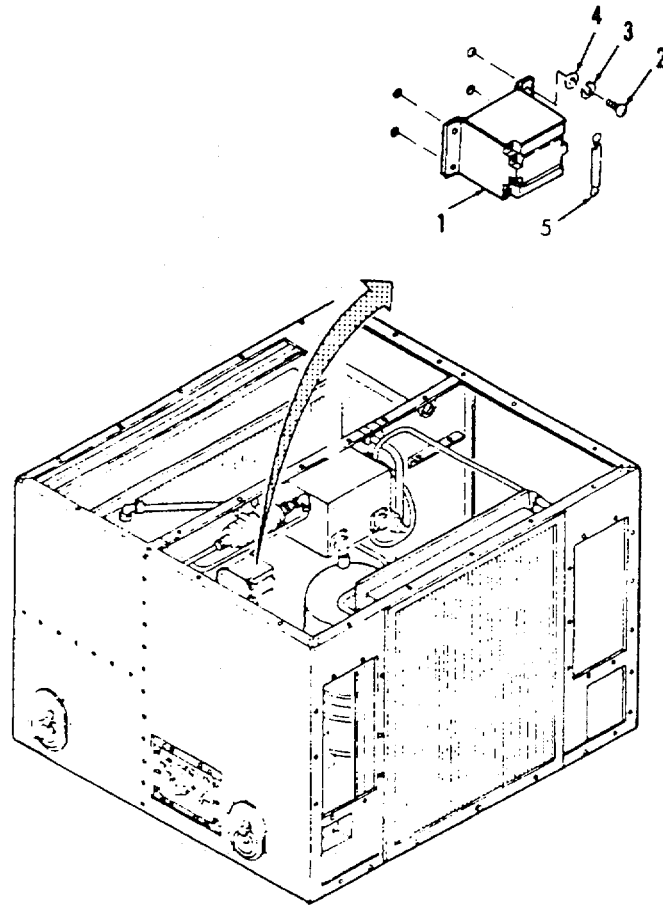

Figure 3-32. Relay (K2).
- a. **Removal.** (Refer to Figure 3-32).